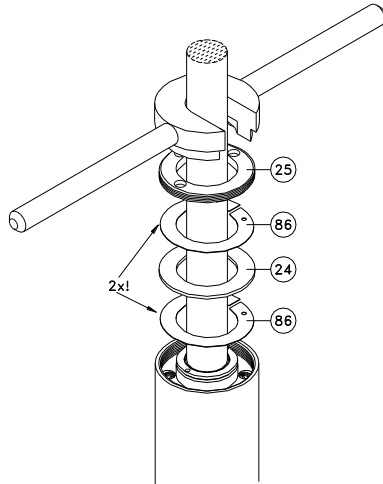

Figure 6-43; Mounting of the reservoir sealing
After adjustment the washer (86) must be mounted between the gasket reservoir tube seal (24) and the reservoir tube seal nut (25). At assembly special attention must be paid to the position of the washer. The cut part of the washer must not be placed above one of the holes for the valves (Figure 6-43).